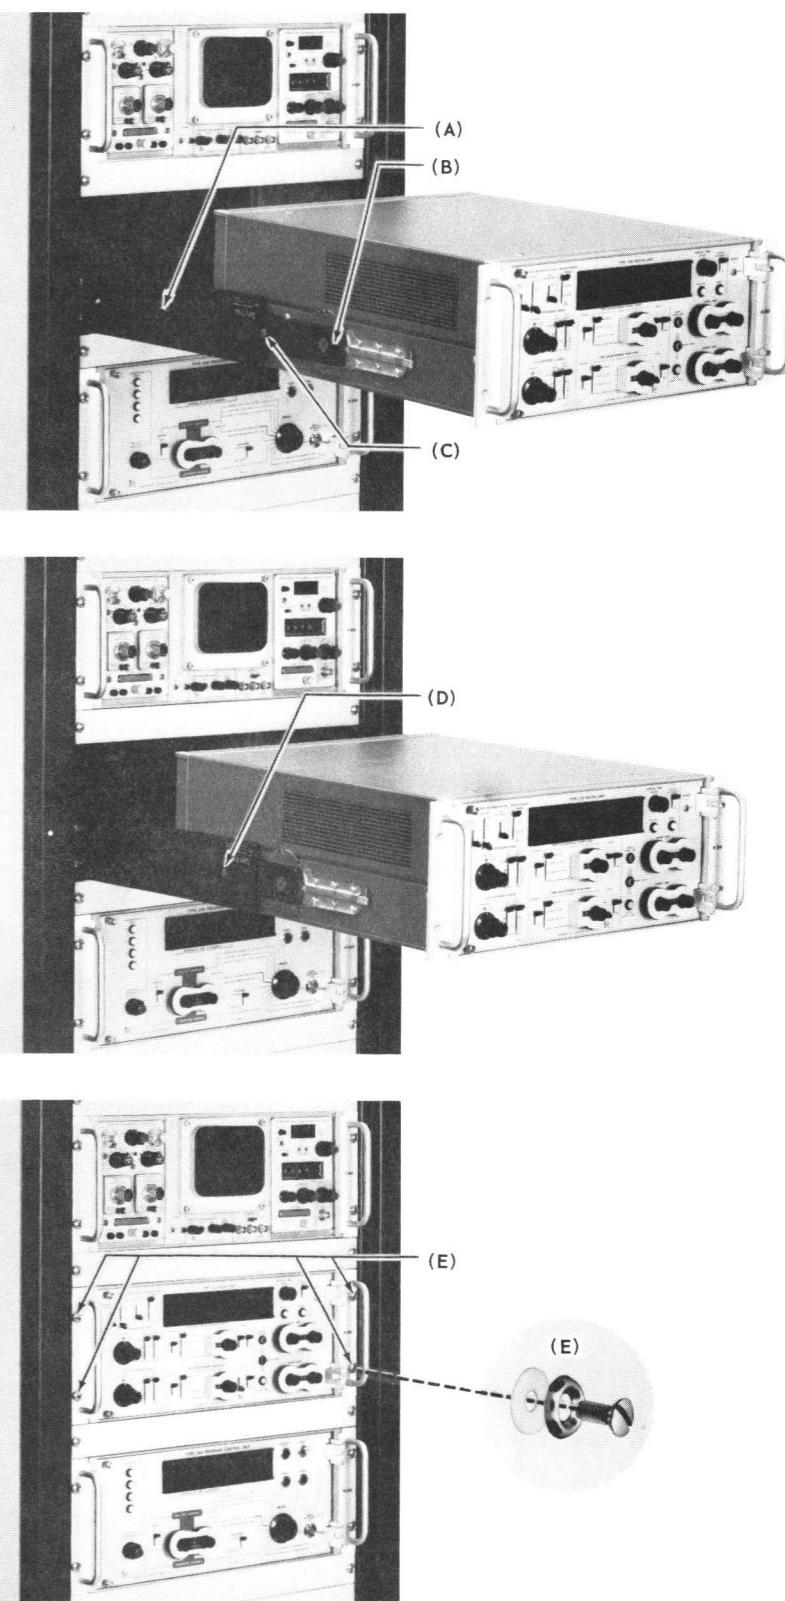

Fig. 8-13. Insertion and removal of a rackmount instrument after the slide-out tracks have been installed.
10. Referring to Fig. 8-13, insert the instrument into the rack. Do not connect the power cord or interconnecting cables yet and do not install the securing screws.
5. Push the instrument all the way into the rack again and install one securing screw through each handle bracket, using a finishing washer and a plastic washer with each securing screw as shown in Fig. 8-13. If the front rails are not tapped for the 10-32 securing screws, some other means of securing the instrument into the rack must be provided.
8. Secure the handle brackets of the Type R250 to the front rails of the rack with the four securing screws (Fig. 8-13).
After the initial installation and adjustment of the slide-out tracks, the Type R250 may be removed or re-inserted in the rack by following the instructions given in Fig. 8-13. Under normal circumstances, no further adjustments are required.